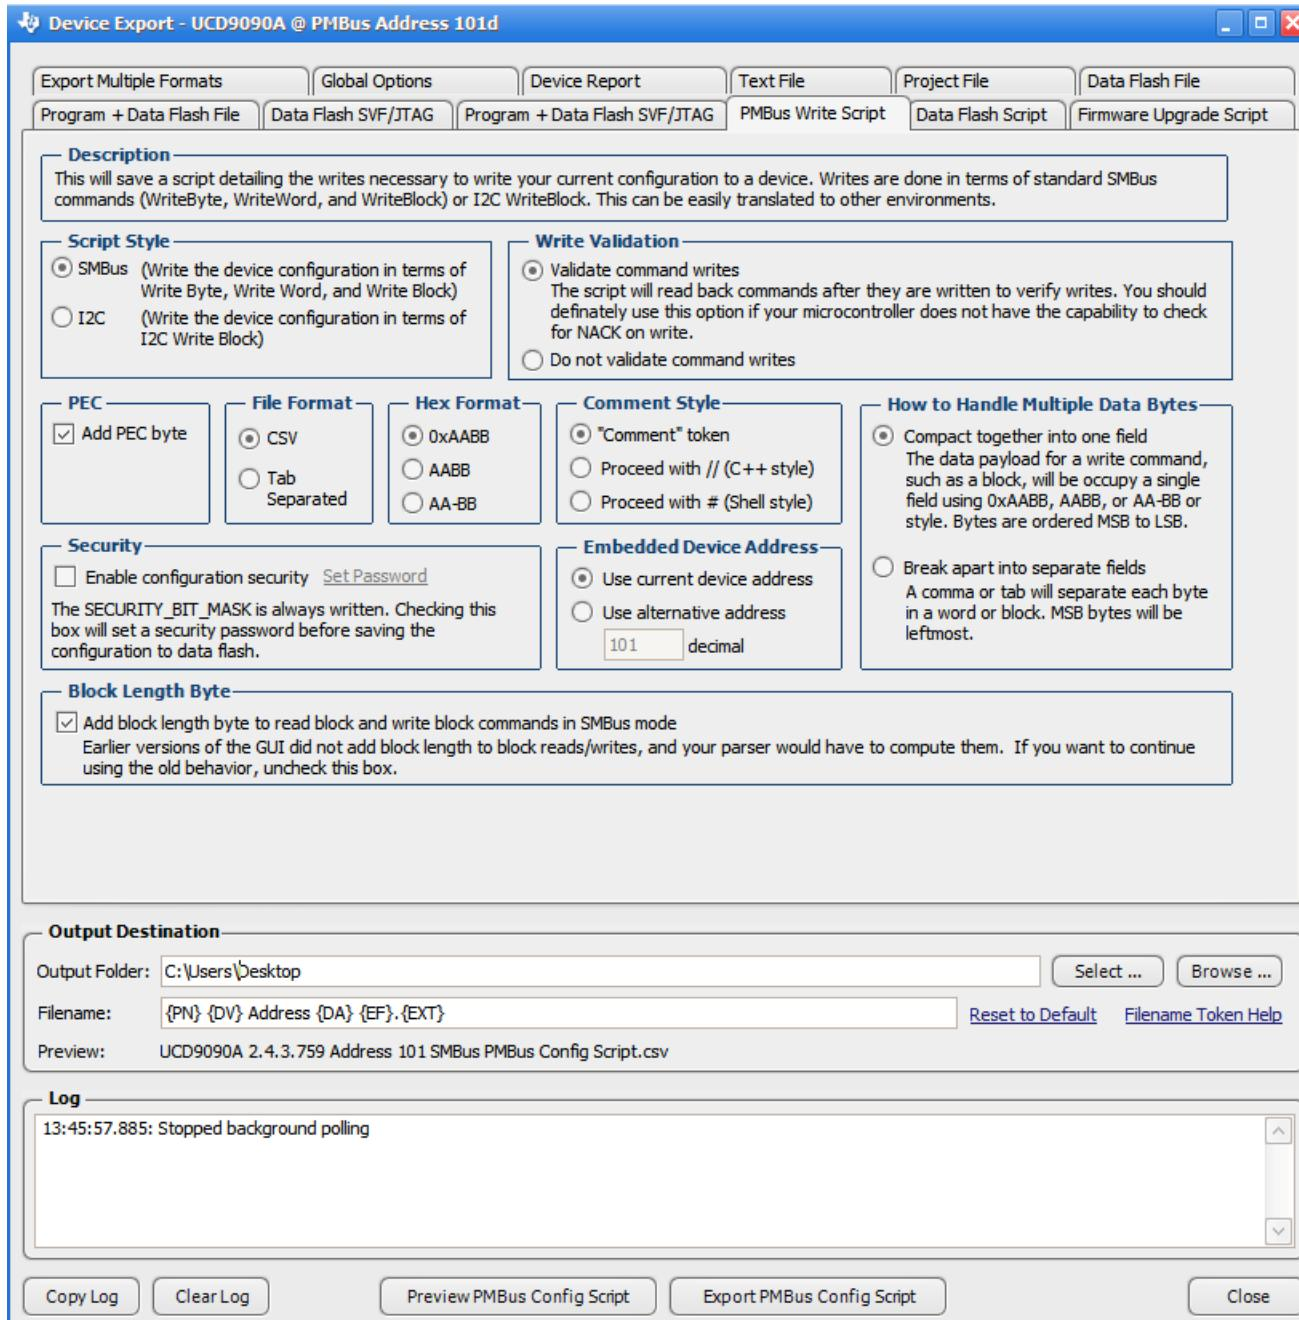

Figure 7-28. Fusion GUI PMBus Configuration Script Export Tool
2. The *Fusion GUI* (Figure 7-28) can create a PMBus or I²C command script file that can be used by the I²C master to configure the device. This method may cause unexpected behaviors on GPIO pins which can disable rails that provide power to device. It is not recommended for production programming.